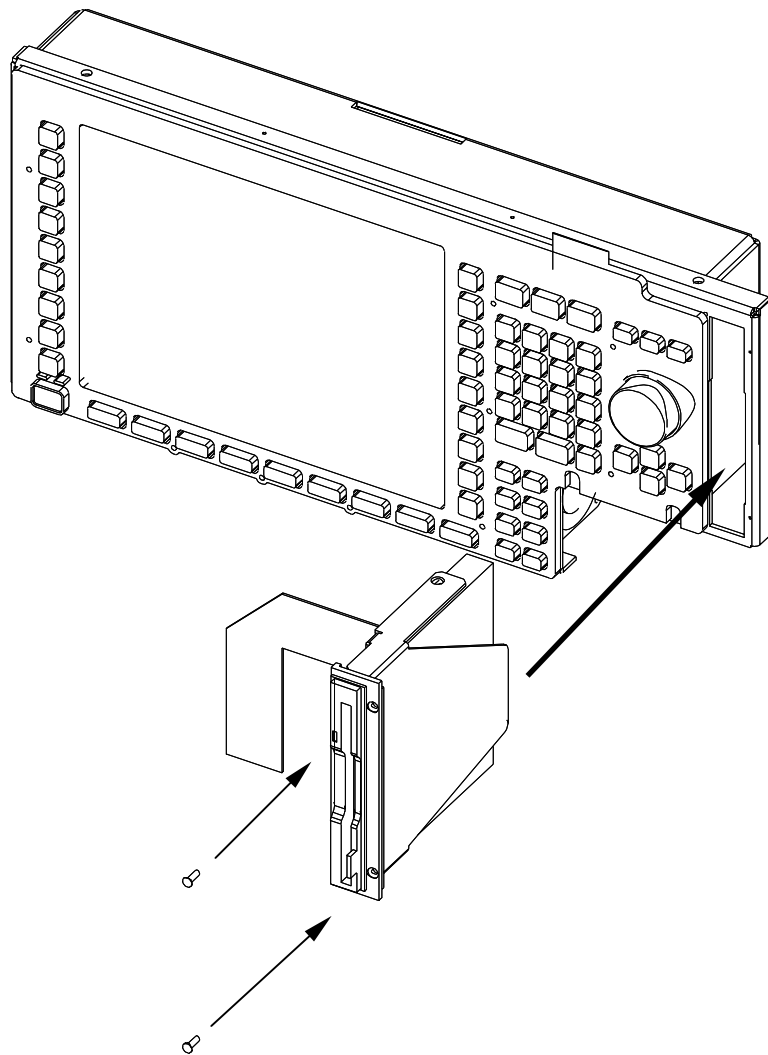

Fig. 5
- Fit floppy drive with frame to front module using two countersunk screws supplied (Fig. 5).